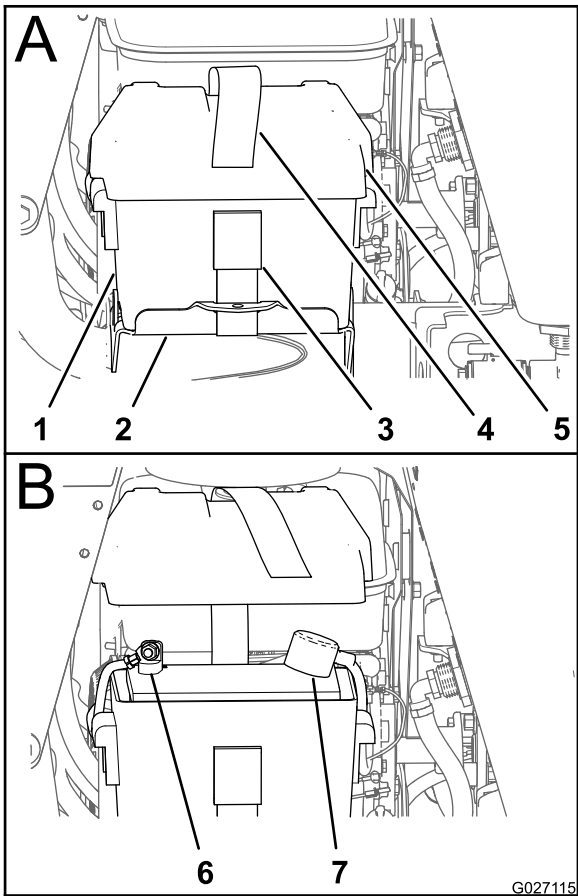

Figure 87
- 2. Remove the free end of the battery strap from the buckle and remove the battery cover from the battery box (Figure 87).
- 5. If the positive cable is also disconnected, connect the **positive (red) cable** to the positive battery terminal and slip terminal cover over the positive terminal (Figure 87).
- 7. Align the battery cover to the battery box and secure the cover and box to the battery tray with the battery strap (Figure 87).
2. Remove the battery cover (Figure 87); refer to step 2 of Checking the Battery Charge \(page 64\).
- Align the battery cover to the battery box and secure the cover and box to the battery tray with the battery strap (Figure 87).